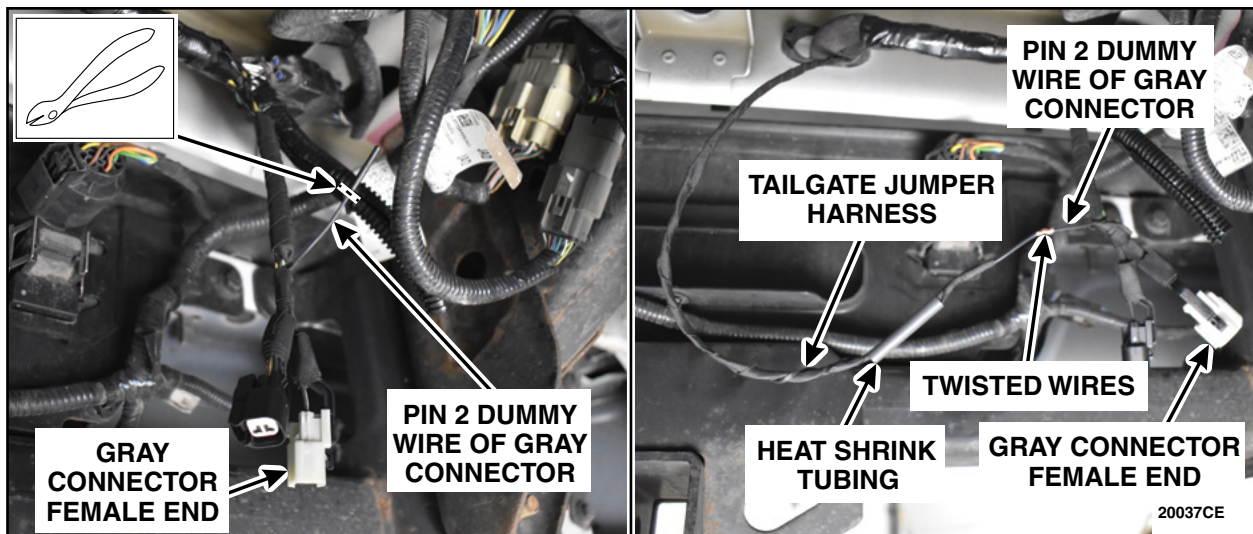

FIGURE 85
77. Remove any tape and/or convolute from the gray connector female end to expose the pin 2 dummy wire. Cut the pin 2 dummy wire just in front of the heat shrink tubing and discard the heat shrink end. Install a *new* piece of heat shrink tubing, twist the Tailgate Jumper Harness and the gray connector female end pin 2 dummy wire together. See Figure 85.